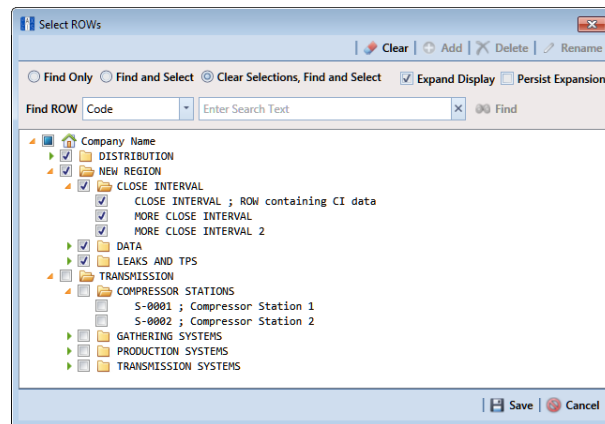

Figure 4-1. Select ROWs
The hierarchy is an organizational structure of one or more folders. Folders are organized in a tree structure based on the number of hierarchy levels set up in the system. The top level of the hierarchy is the root level that identifies your company's name. All hierarchy folders are added below the root level. The lowest level of the hierarchy includes a folder with pipelines added in the system (Figure 4-1, page 140).
- 1 Click **File > Select ROWs** to open the *Select ROWs* window (Figure 4-1).